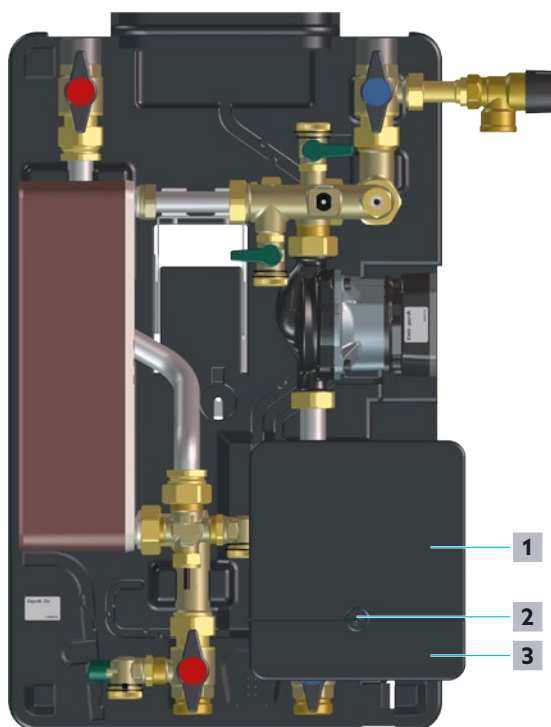

Fig. 22: Opening of the controller
- 3 Loosen the screw (position 2 in Fig. 22 on page 28) and put it aside.
- 4 Slide the connection panel cover (position 1 in Fig. 22 on page 28) upwards until it audibly clicks into place.
- 5 Fold down the supply line cover (position 3 in Fig. 22 on page 28).